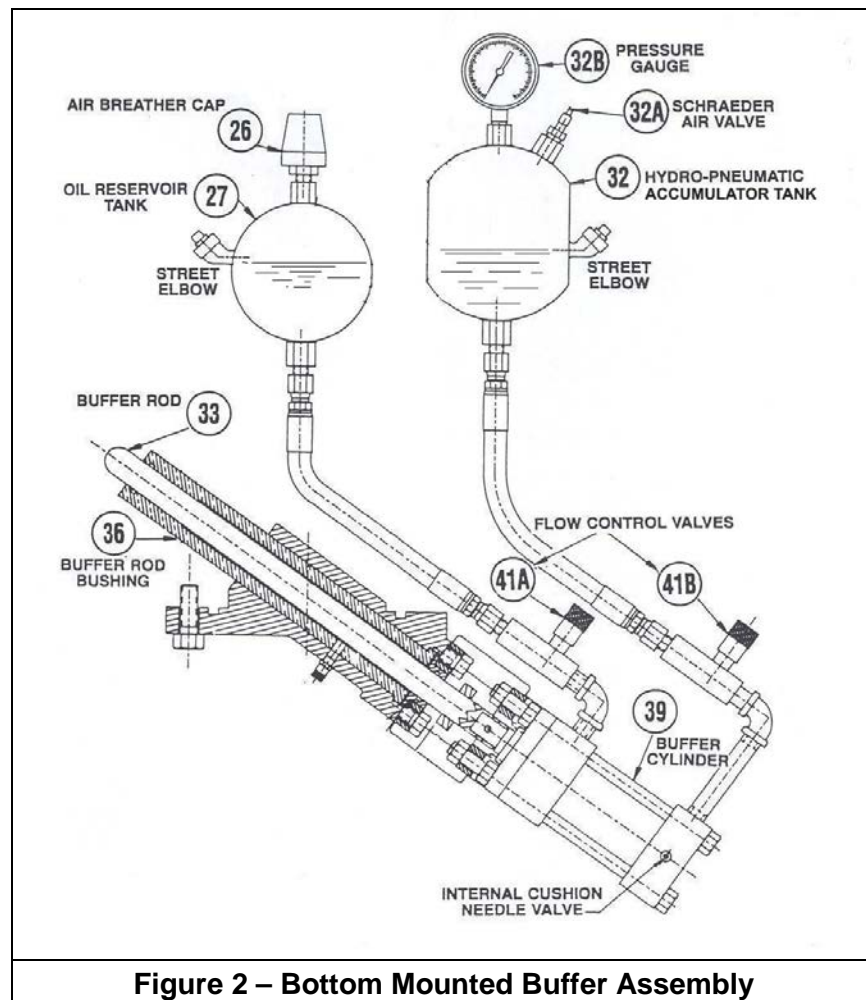

Figure 2 – Bottom Mounted Buffer Assembly
The APCO CRF Rubber Flapper Swing Check Valve may be installed in either horizontal or vertical position (with the flow upward). The embossed flow arrow on the valve body must be pointing in the direction of flow. Valves with Bottom Mounted Buffer, the oil tanks **(27)** and **(32)** of **Figure 2** must always be in upright position. Unless otherwise specified, the valves are shipped for horizontal installation.
The flow from the pump opens the flapper. When the pump is shut off, backflow pressure (and Spring Assist or Spring Return if equipped) pushes the flapper to close against the body seat surface. If the valve is equipped with a Bottom Mounted Buffer, as the disc is closing, the flapper closes freely for the majority of its travel from full open to close. When the flapper is about 90% closed, it comes in contact with the Buffer Rod (33) which controls the speed of closing for the last 10% of flapper travel. See Figure 2. This type of control provides for proper adjustment to suit the best performance for the installation, and can minimize pipeline surge and water hammer.
The bottom mounted buffer assembly (figure 2) utilizes two air over oil tanks, an accumulator (32) and an oil reservoir (27). The accumulator is pressurized to allow the buffer to fully extend by counteracting the pressure in the pipeline. The oil reservoir is vented to atmosphere and its main function is to lubricate the piston and the cylinder.